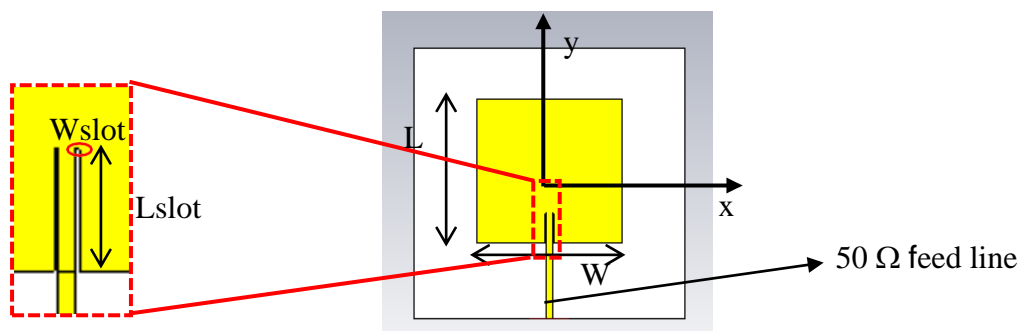

Fig. 2
The aim of this lab is to design a microstrip patch antenna with resonant frequency at  $f_0$  GHz. The structure is illustrated in Fig. 1 (transversal section view) and Fig. 2 (frontal view):
- a. Create a square planar patch layout similar to the one shown in Fig. 2. The physical length ( $L=W$ ) of the patch has to be around  $\lambda/2$  @ 2.47GHz (considering the dielectric, also), but tune it in order to have the proper resonance. Adopt the origin of the reference frame as indicated in the figure to have the patch antenna in the center of the substrate. The ideal resonant cavity is given by two (real) perfect electric conductor planes (the patch and the ground), and two (ideal) perfect magnetic conductors (at  $x = \pm L/2$ ) Start with the definition of the components of the antenna:
- 2) **Define the port:** It allows us to solve the antenna-line matching issue. By moving from the edge towards the centre of the patch (design parameter  $S$ ) it is possible to find the right length providing the antenna impedance (real at the resonance) equal to the characteristic impedance of the line pick the edge of the feeding line in the back side of the structure (*Simulation/Pick/Pick edge*). Then select *Ports/New Waveguide port* and define a port in the positive  $y$  direction (as in Fig. 2), with width  $3 * W_f$  at the left and right side of the  $X$  range,  $h_s$  at  $Z_{min}$  (it must touch the ground), and  $5 * h_s$  at  $Z_{max}$  (in order to have a sufficiently big rectangle as in the Fig. 1).
- 6) Since typically a patch antenna is not well matched to a  $50\ \Omega$  feed line, we have now to introduce the feeding slots (slot width  $\mathbf{W}_{\text{slot}} = 2\ \text{mm}$  and starting value of slot length  $\mathbf{L}_{\text{slot}} = 10\ \text{mm}$ ) on the line sides, inside the patch (as in Fig. 2).